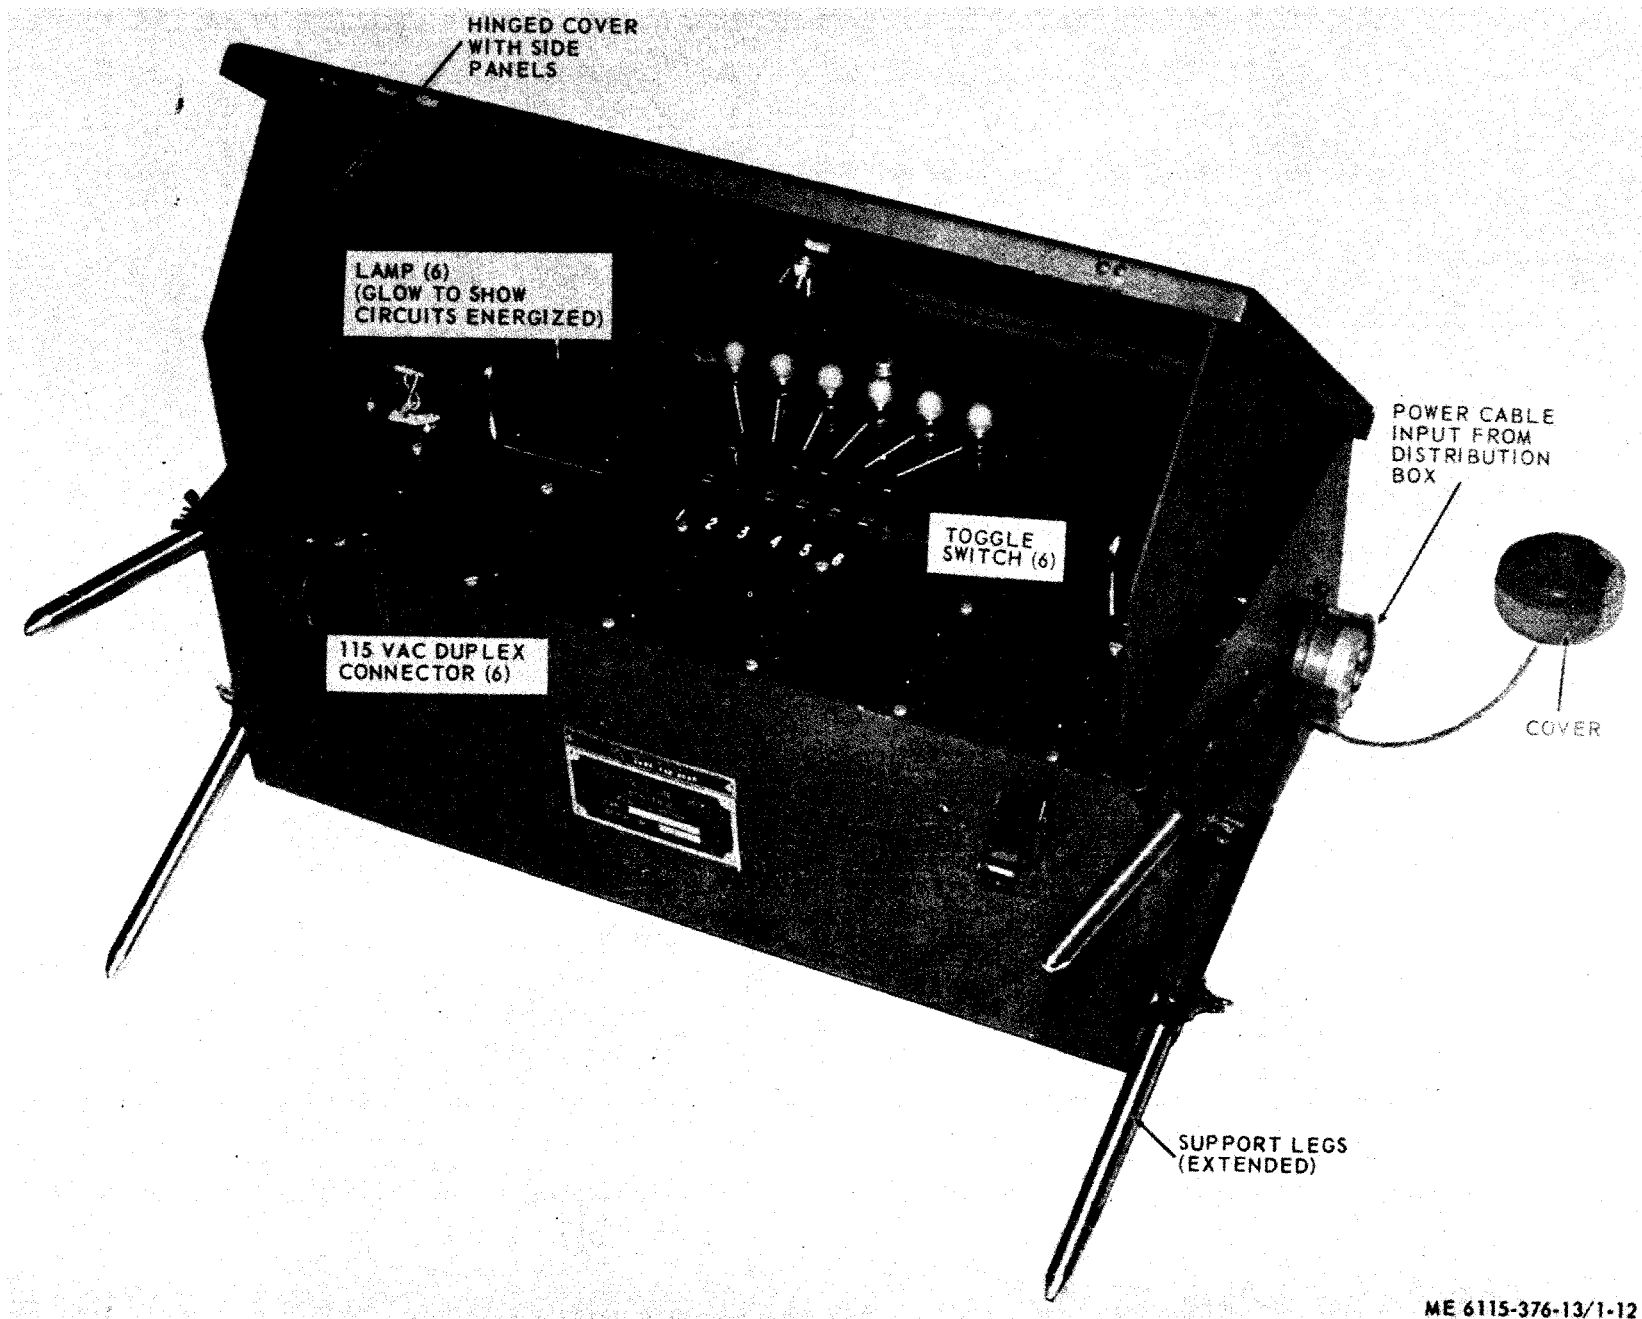

Figure 1-12. Portable distribution boxes (all units).
(6) *Portable distribution boxes, (all units).* The portable distribution boxes (fig. 1-12) are 21 inches long, 12 inches wide and 12 inches deep. The weather-resistant case has a hinged cover with folding side panels for weather protection, and adjustable legs for operation in upright position. When connected to the distribution box, the portable distribution box provides 120 volt AC, single phase power for up to 12 connections. The